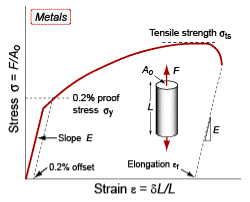

Figure 1. Stress-strain curve for a metal.
**Definition and measurement.** The yield strength  $\sigma_y$  (or elastic limit  $\sigma_{el}$ ), (units: MPa or MN/m2) requires careful definition. For metals, we often identify  $\sigma_y$  with the 0.2% offset yield strength, that is, the stress at which the stress-strain curve for axial loading deviates by a strain of 0.2% from the linear-elastic line as shown in Figure 1 (this 0.2% offset point is also associated with plastic strain).  $\sigma_y$  can also be defined by the proportional limit. For metals, it is often, but not always the same in tension and compression - notice for example that the wrought aluminum alloys datasheets show a tension/compression anisotropy. For polymers,  $\sigma_y$  is identified as the stress at which the gradient of the stress-strain graph is zero. When such a local maximum is not present, then it is defined as the stress at which the stress-strain curve becomes markedly non-linear: typically, a strain of 1% (Figure 2). Polymers are a little